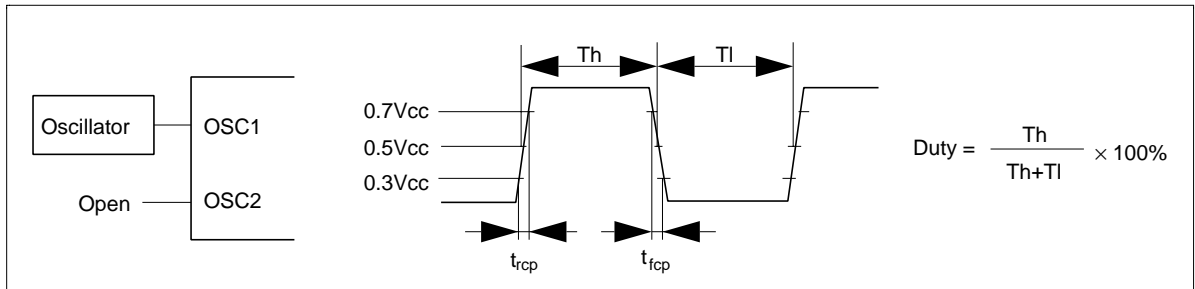

Figure 38 External Clock Supply
- Applies to the external clock input (figure 38).